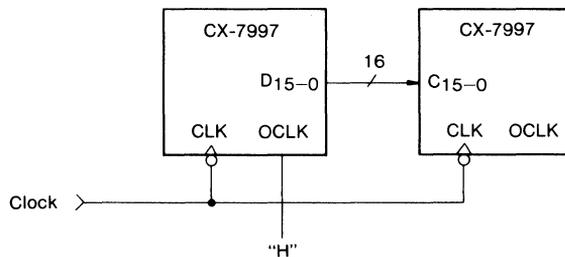

Fig. 4 External Device Interface (1)
- (i) When the external device fetches data with the falling edge of the clock, wire each connection as shown in Fig. 4.